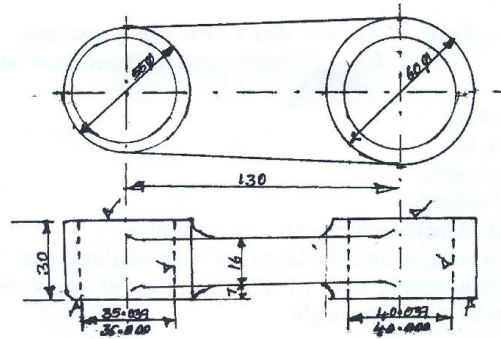

Fig.Q5(b)
- b. With sketches of a lever made of cast-iron Fig.Q5(b), give the different possible parting line for casting a lever-cast iron. What is the most suitable parting line for lever cast iron? (10 Marks)